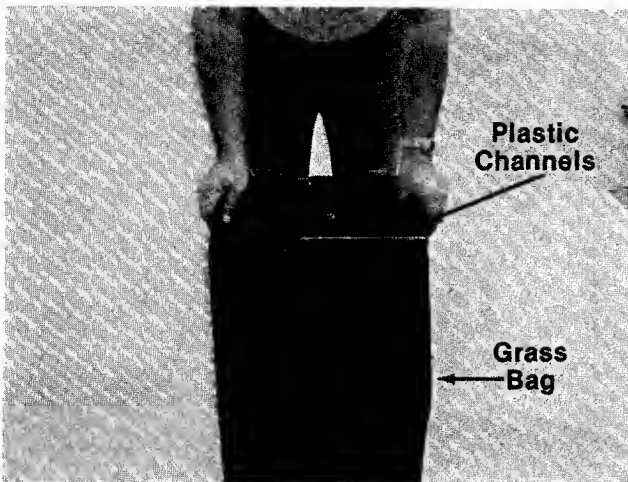

FIGURE 11.
3. Secure bag to frame by slipping plastic channels on bag over frame. See figure 11.